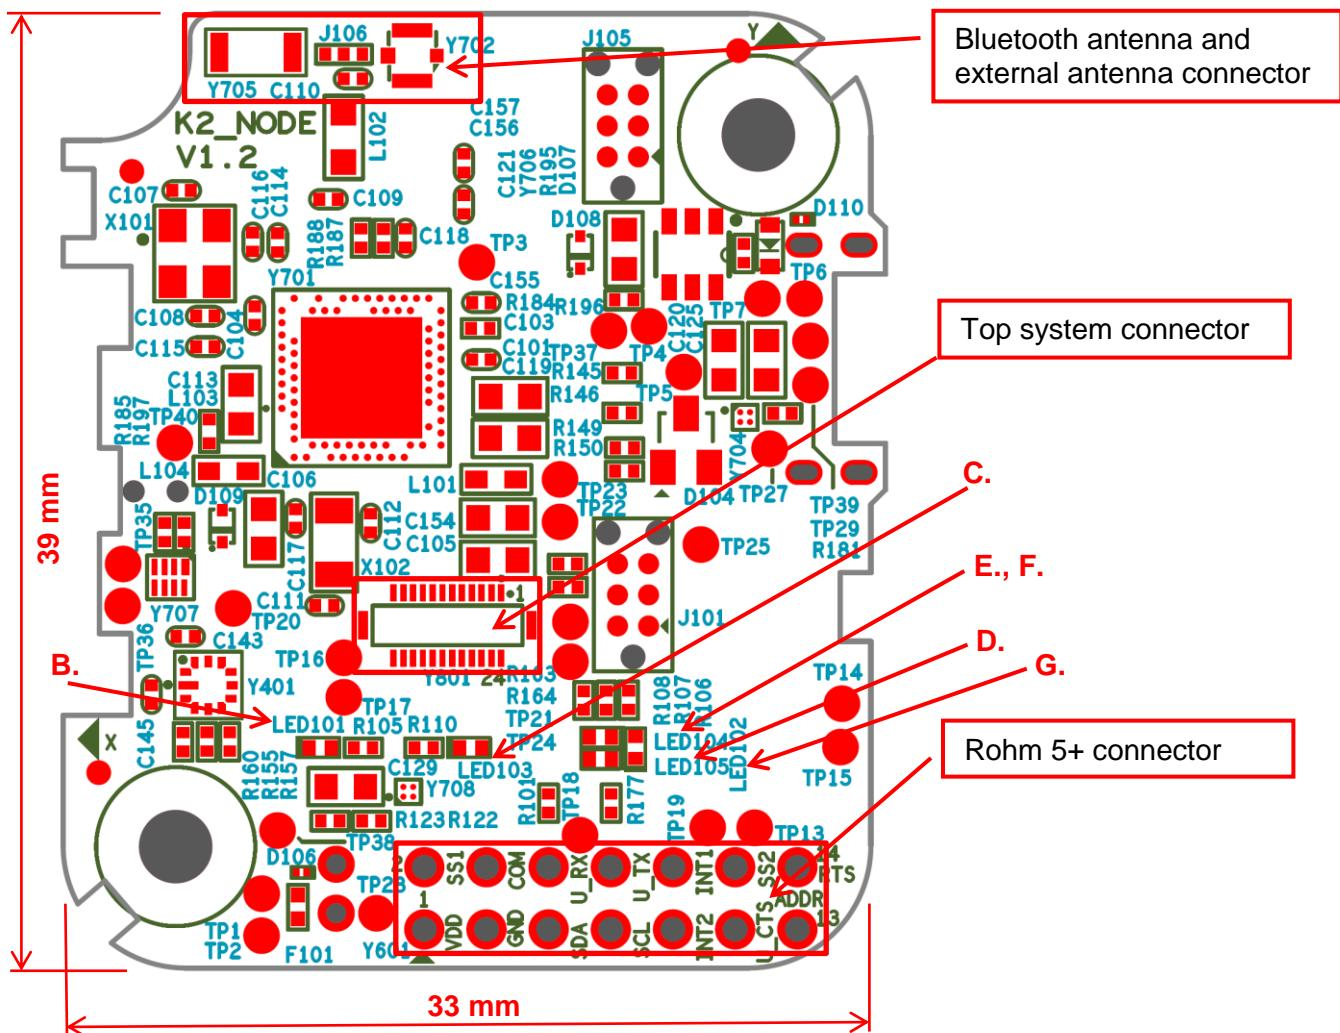
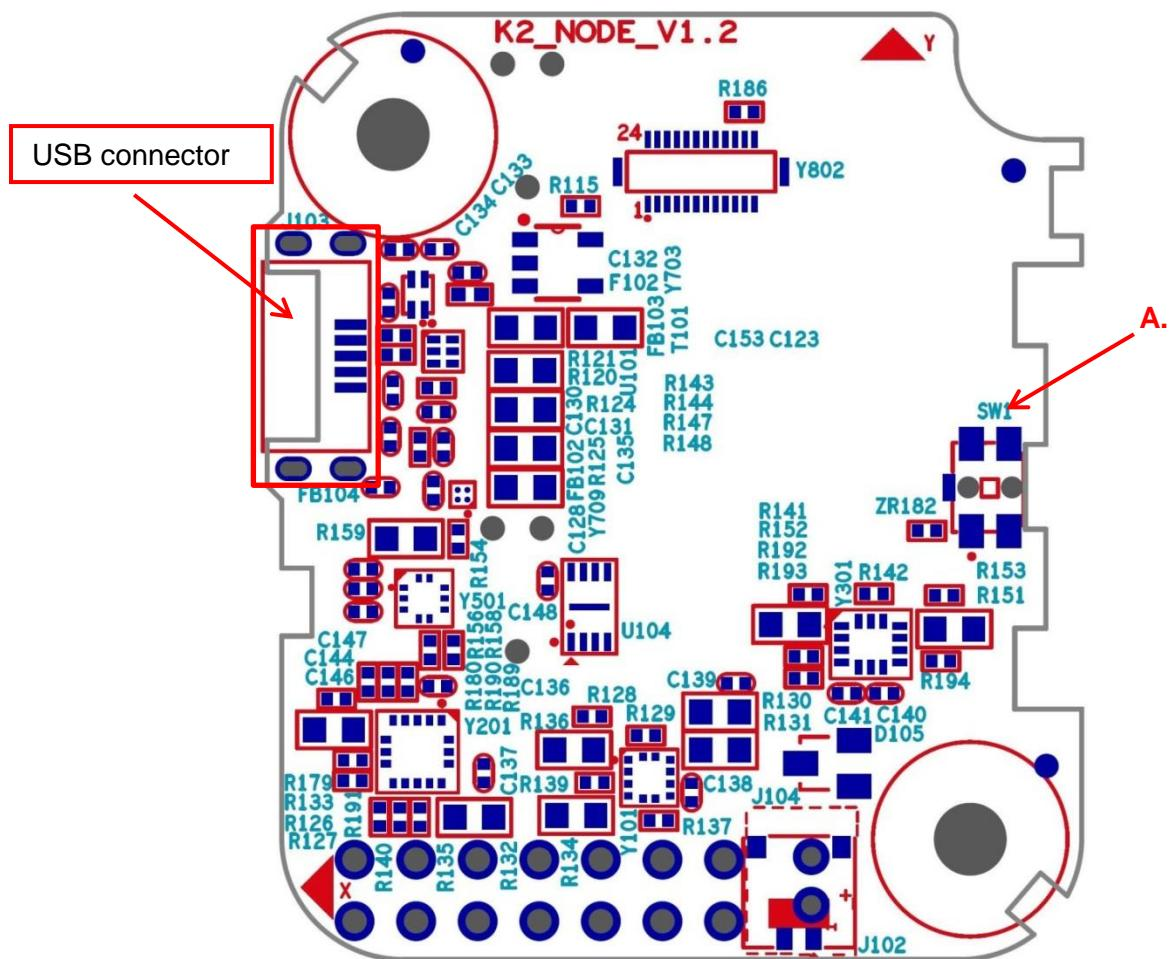

Figure 4: RoKiX Sensor Node top component placement
Figure 6: *RoKiX* Sensor Node bottom component placement
**NOTE:** Initially with the *RoKiX Sensor Node*, the Bluetooth signal is connected to the internal chip antenna (Figure 4). However, if the BLE connector is used for external antenna connection, please follow these instructions:
The main parts of layout and component placement are as follows (Figure 3, Figure 4 and Figure 6):
More sensors can be connected to the *RoKiX Sensor Node* in two ways (see Figure 4):